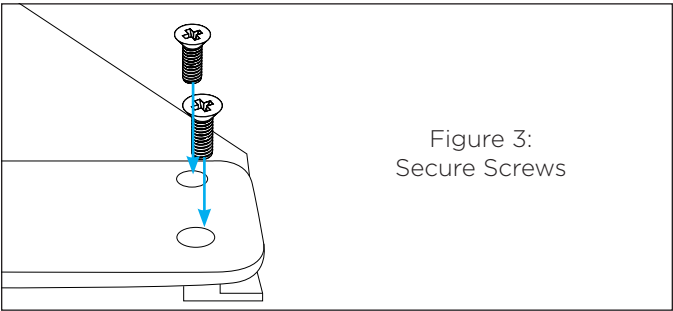

Figure 3:
- 2. Use two 8-32x3/8" Phil Flat Screws to secure the Pinch Tab to the Z-U Adapter. Do not fully tighten the screws; tighten only enough to hold the Pinch Tab in place (see Figure 3).